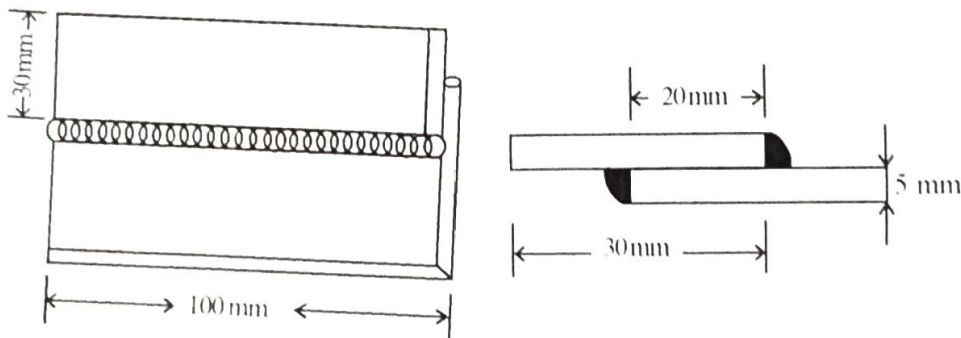

Fig. 2
2. Prepare the welding job using arc welding as per the drawing shown in Fig.2. 50